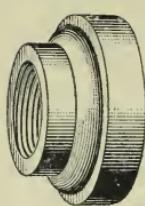

FIG. 31
**46.** A **reducing coupling** is shown in Fig. 31. This is